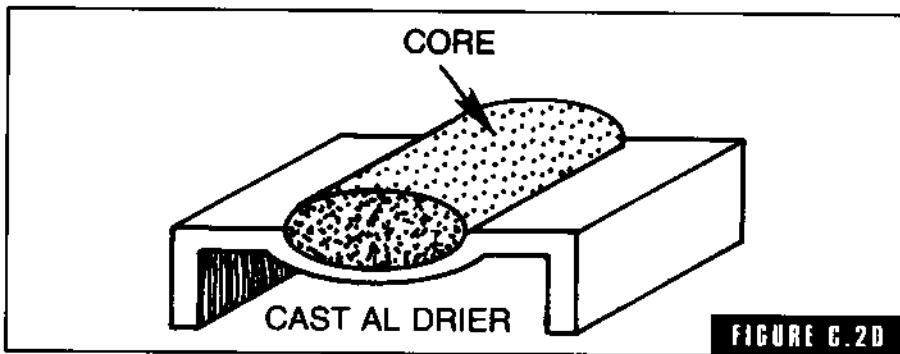

FIGURE C.20
**core dryers** Metal plates that have the shape of the core to support it and keep it in shape during the baking cycle (Fig. C-20).